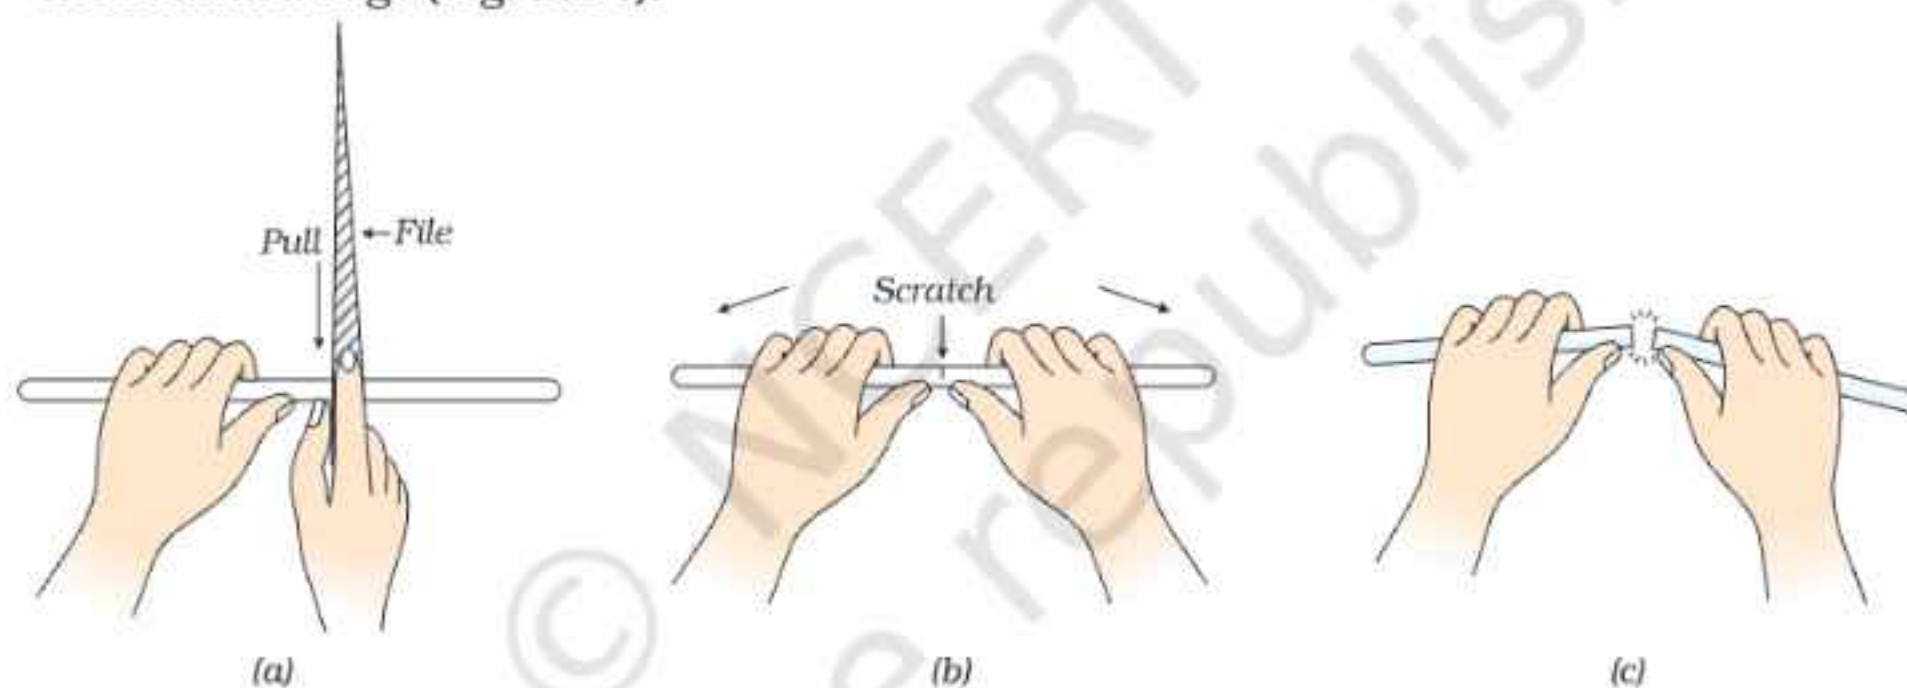

Fig. 2.1 : (a) Marking a glass rod or a glass tube
- (ii) Keep the lower end of a triangular file with its sharp edge perpendicular to the tube to be marked and pull it towards you to make a single deep scratch on the glass tube or the glass rod at a desired length (Fig. 2.1 a).
- (iii) Keep thumbs of your hands on both sides, very close and opposite to the scratch as shown in Fig. 2.1 b and break the glass tube or rod by applying pressure from your thumbs in a direction away from you (Fig. 2.1 c). Break the tube/rod by holding it with a cloth so that hands are not harmed.